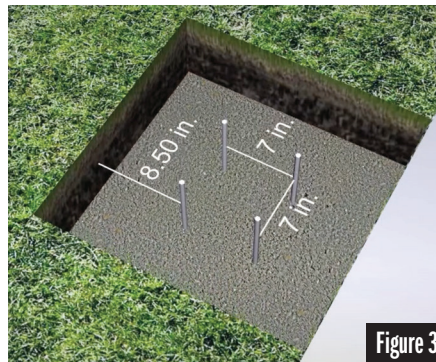

Figure 3
**STEP 4:** Fill the hole half way with concrete and evenly space rebar in the dimensions shown in Figure 3. \*Note: Rebar is added to help reinforce & strengthen the concrete.